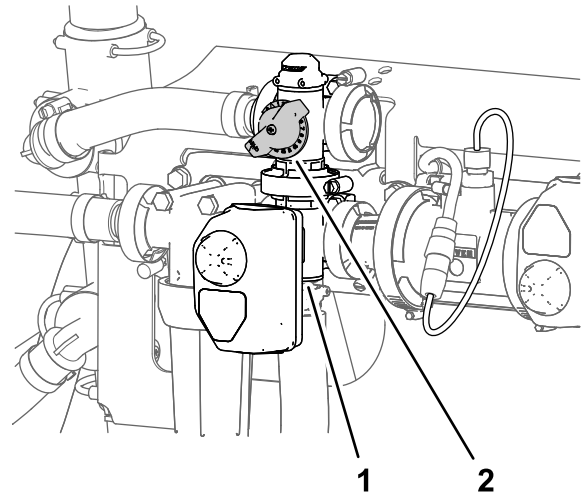

Figure 40
10. Adjust the agitation-bypass valve (Figure 40) on the backside of the agitation valve until the sprayer system pressure indicated on the gauge indicates 689 kPa (100 psi).